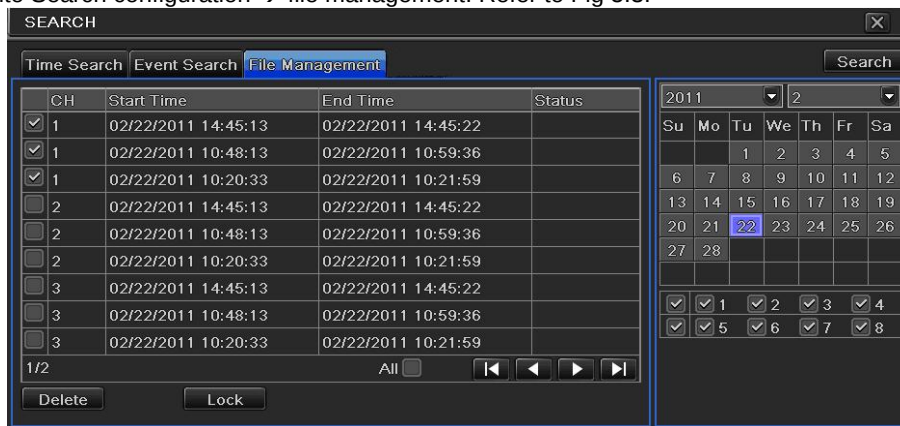

Fig 5.3 Search Configuration - File Management
Step 1: Enter into Search configuration → file management. Refer to Fig 5.3.